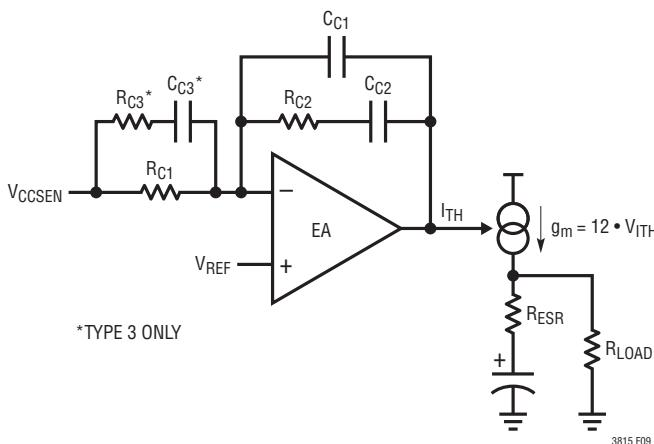
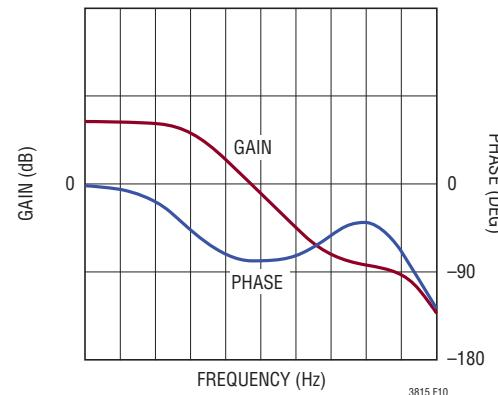

Figure 9. PSPICE Model of a LTC3815 Current Mode Regulator
Figure 10. Transfer Function of Buck Modulator
procedure is also helpful if the output capacitor type is very different than the one specified in the application circuits or if a Type 3 compensation network is required. A Type 3 compensation network includes the additional components R_{C3} and C_{C3} shown in Figure 9.
power supply model shown in Figure 9. The error amplifier EA can be modeled as an ideal op amp (for crossover frequencies $< 200\text{kHz}$) and the inductor as a voltage controlled current source. The gain/phase plot should look similar to Figure 10.
2. If a longer soft-start period is desired, it can be set externally with a capacitor on the TRACK/SS pin as shown in Figure 10. The TRACK/SS pin reduces the value of the internal reference at FB until TRACK/SS charges above the REF pin voltage. The external soft-start duration can be calculated by using the following formula: